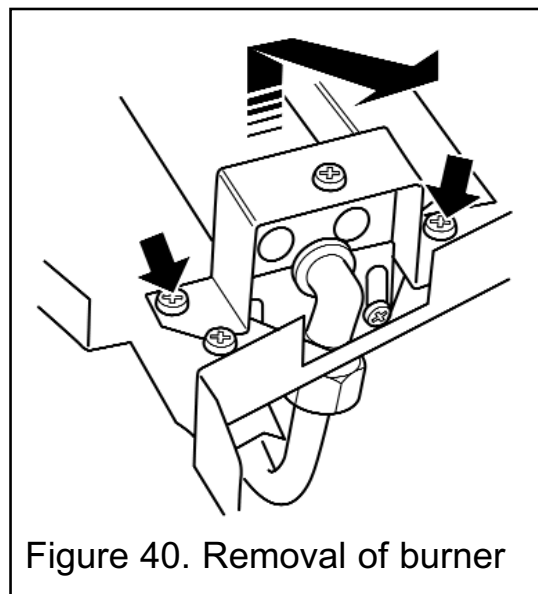

Figure 40. Removal of burner
(See figure 40).
3. Remove the two screws from the burner clamping plate (See figure 40)